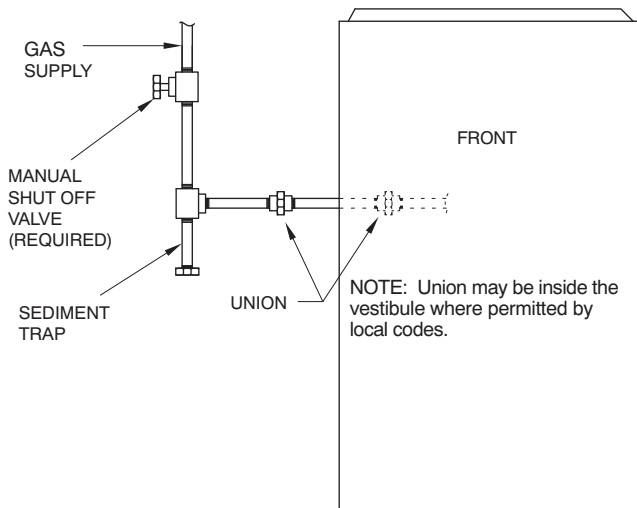

Fig. 34 – Typical Gas Pipe Arrangement
Install a sediment trap externally in riser leading to furnace as shown in Fig. 34. Connect a capped nipple into lower end of tee. Capped nipple should extend below level of furnace gas controls. Place a ground joint union between furnace gas control valve and exterior manual equipment gas shutoff valve.
1. Drill two (2) 1/8-in. (3 mm) pilot holes through the dimples in the furnace casing near the 7/8-in. knock-out on the side of the casing. Do not remove the knock-out in the side of the casing.
9. Connect field power and neutral leads to furnace power leads inside the external electrical box as shown in Fig. 34.